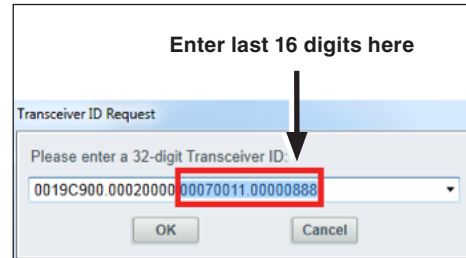

Figure 14. Enter last 16 digits into the Transceiver ID dialog box.
- Next, a Transceiver ID Request dialog box will open. Enter the Transceiver ID of the TripSaver II recloser being connected to, and click on the **OK** button to connect. The first 16 digits of the ID are pre-typed, so only the last 16 digits must be typed in. See Figure 14.